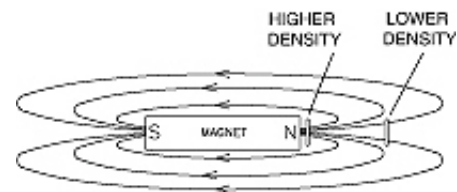

Figure 3-23
5) As shown in Figure 3-23 the greater the distance between the magnetic source and the Hall probe, the fewer flux lines will pass through the probe. This would cause the probe's output to decrease.